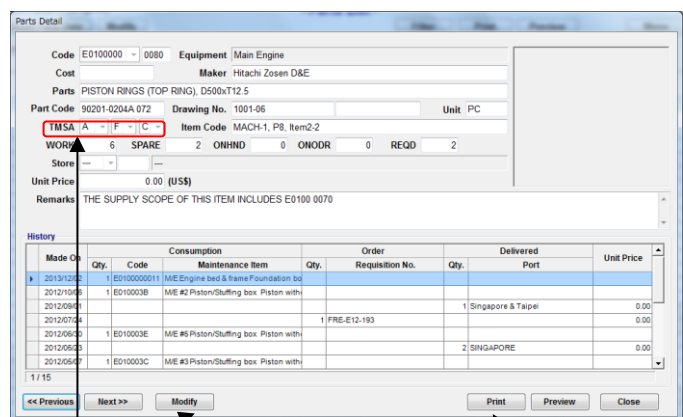

Fig.12-3 Parts Dialog
- (3) Select item and click [Detail Parts Data], “Parts Dialog” (Fig.12-3) is displayed.
- (4) If you want to modify, only SMS category can be changed.
- (5) If you want to print, select [Print].
- (6) If you want to see preview, select [Preview].
- (7) If you want to close screen, select [Close].
- (8) Select operation button of [shortage].